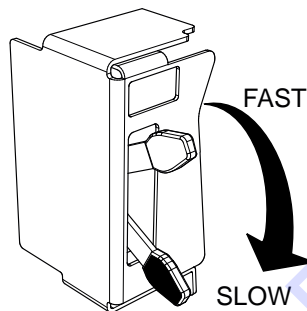

Figure 28. Throttle Lever (Slow)
3. Place the throttle lever (Figure 28) in the slow position. Idle engine 3-5 minutes for gradual cooling